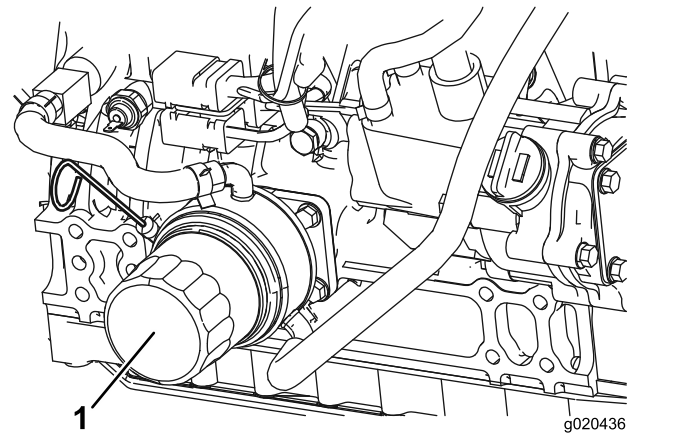

Figure 52
2. Remove the oil filter (Figure 52). Apply a light coat of clean oil to the new filter seal before screwing it on. **Do not overtighten.**